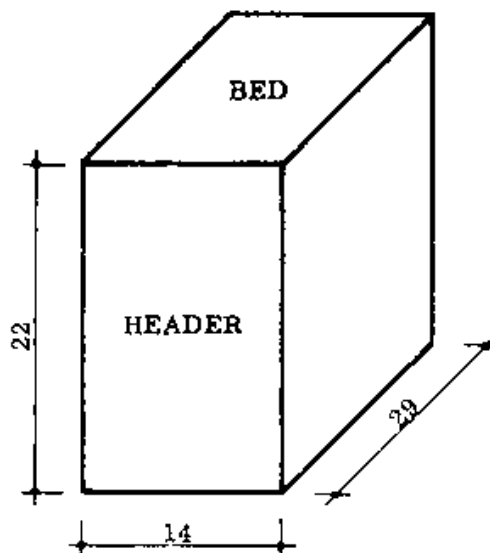

Fig. 2 LANDCRETE BLOCK
- LANDCRETE BLOCKS: These are blocks used for actual building (Fig. 2).